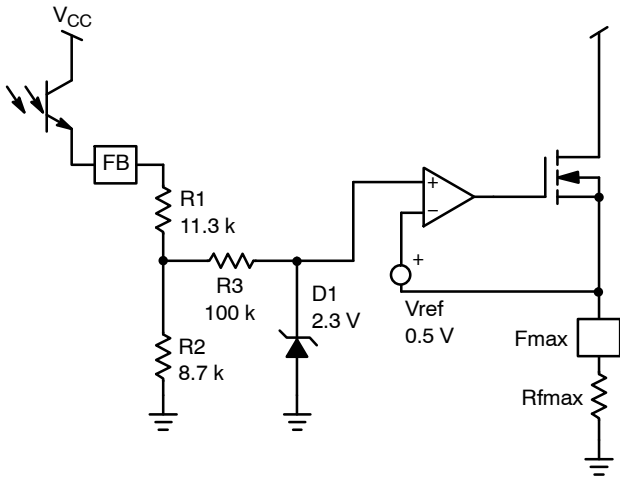

Figure 32. The OPAMP Arrangement Limits the VCO Modulation Signal between 0.5 and 2.3 V
As shown on Figure 32, the internal dynamics of the VCO control voltage will be constrained between 0.5 V and 2.3 V, whereas the feedback loop will drive pin 6 (FB) between 1.2 V and 5.3 V. If we take the default FB pin excursion numbers, 1.2 V = 50 kHz, 5.3 V = 500 kHz, then the VCO maximum slope will be: